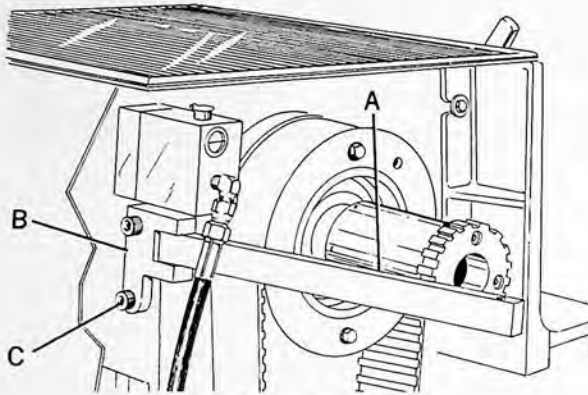

FIGURE 3
5. Attach bar (A) and bracket (B, fig. 3) to headstock with two 3/8-16x7/8 screws (C).